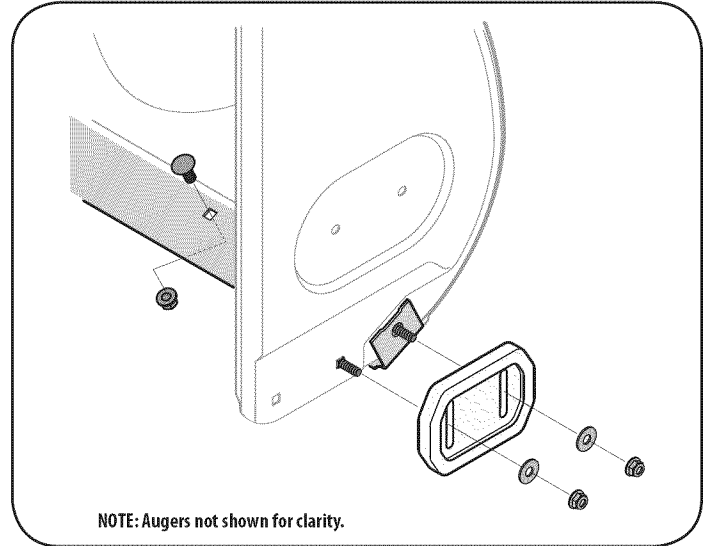

Figure 23
2. Reassemble new skid shoes with the four carriage bolts (two on each side) and hex flange nuts. Refer to Figure 23.
2. Reassemble new shave plate, making sure heads of carriage bolts are to the inside of housing. Tighten securely. Refer to Figure 23.